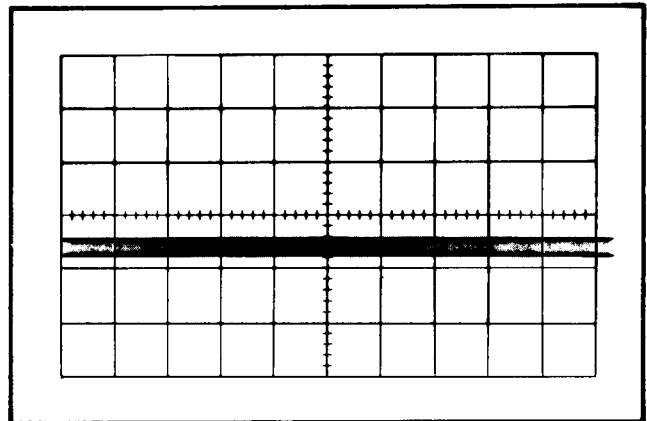

Fig. 5-10. Typical CRT display when checking common-mode rejection ratio.
- CHECK—CRT display for 0.8 division deflection, or less (common-mode rejection ratio 10:1 or better; see Fig. 5-10).